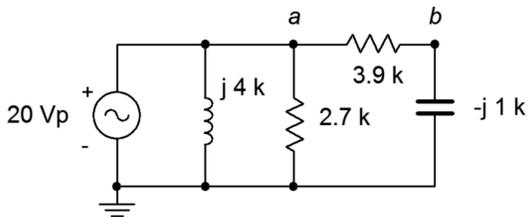

Figure 4.11
15. For the circuit of Figure 4.11, determine the source current and the current through each of the four components.
16. For the circuit of Figure 4.11, determine voltages  $v_{ab}$  and  $v_b$ .